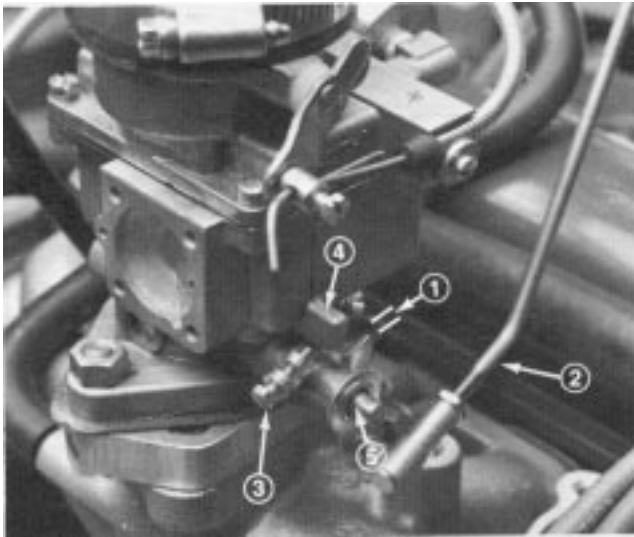

Figure 38
1. With engine shut off, move throttle control to FAST position and open hood. Check between the throttle arm and the stop on the carburetor base to make sure there is 1/32" (0.8 mm) gap (Fig. 38). If gap is not correct, adjust throttle rod (Fig. 38) by turning ball joint ends until gap is 1/32" (0.8 mm). If gap is correct, proceed to step 2.
3. Rotate throttle arm closed until it contacts stop (Fig. 38).